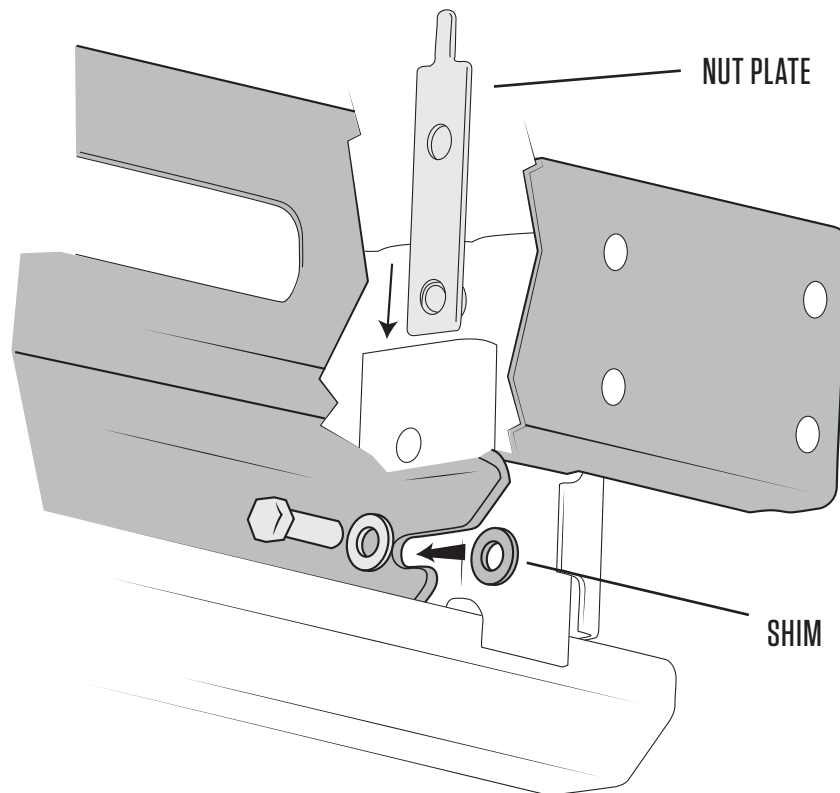

Figure 5
2. Position the Winch Mount Assembly from Step B, onto the Vehicle Frame Rails (Fig. 5).
3. Orient Hardware as shown (Fig. 5) for a proper installation of the Winch Mount Assembly. There are three (3) 40mm diameter washers supplied (4.5mm thick) and one (1) 26mm diameter washer supplied (2.5mm thick), all of which may not be needed for the installation.
4. Check the gap between the winch mount and frame rail (Fig. 5) – Shim, as necessary, using the washers provided.
5. Bolt the winch mount to the lower frame attachment points (19mm tools) using the Two (2) M12 hex head bolts, washers, spacers and nut plates ( Fig. 5)— Torque to 55ft-#-74 N-m.